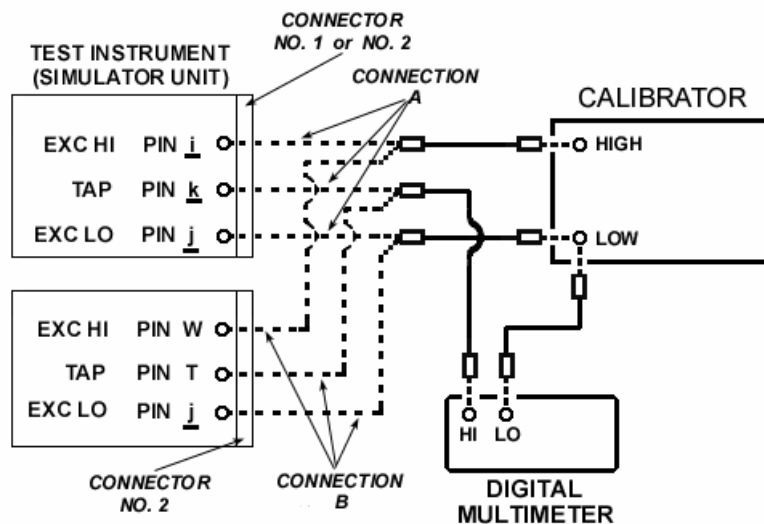

Figure 3. Engine oil pressure - equipment setup.
(1) Connect equipment as shown in figure 3, connection A for connector No. 1. Do not disconnect equipment connected in figure 1.
(2) Set **TI ENGINE OIL PRESS NO. 1 CAL/NOR** switch to **CAL** and **HI/LO** switch to **LO**.
(3) Set calibrator for a 6 V, 400 Hz output.
(4) Set **ON-OFF-SIM ONLY** switch to **SIM ONLY**. If multimeter does not indicate between 3.447 and 3.735 V ac, perform **b** (1) through (4) below.
(5) Set **ENGINE OIL PRESS NO. 1 HI/LO** switch to **HI**. Multimeter will indicate between 2.770 and 3.058 V ac.
(6) Set **ENGINE OIL PRESS NO. 1 CAL/NOR** switch to **NOR** and adjust **ENGINE OIL PRESS NO. 1** variable control from fully ccw to fully cw. If multimeter does not indicate from more than 3.447 to less than 2.770 V ac, perform **b** (1) through (3) and (5) and (6) below.
(7) Set **ON-OFF-SIM ONLY** switch to **OFF** and calibrator to **STBY**.
(8) Connect equipment as shown in figure 3, connection A, for connector No. 2.
(9) Repeat (2) through (7) above except use **ENGINE OIL PRESS NO. 2** controls. If not within tolerance in (4) above, perform **b** (1) through (3) and (7) below. If not in tolerance in (6) above, perform **b** (1) through (3) and (8) and (9) below.
(1) Connect equipment as shown in figure 3, connection B, for connector No. 2. Do not disconnect equipment connected in figure 1.
(2) Set **XMSN OIL PRESS CAL/NOR** switch to **CAL** and **HI/LO** switch to **LO**.
(5) Set **XMSN OIL PRESS HI/LO** switch to **HI**. Multimeter will indicate between 2.696 and 2.984 V ac.
(6) Set **XMSN OIL PRESS CAL/NOR** switch to **NOR** and adjust **XMSN OIL PRESS** variable control from fully ccw to fully cw. If multimeter does not indicate from more than 3.447 to less than 2.770 V ac, perform **b** (1) through (3) and (5) through (7) below.
(7) Set **ON-OFF-SIM ONLY** switch to **OFF**.